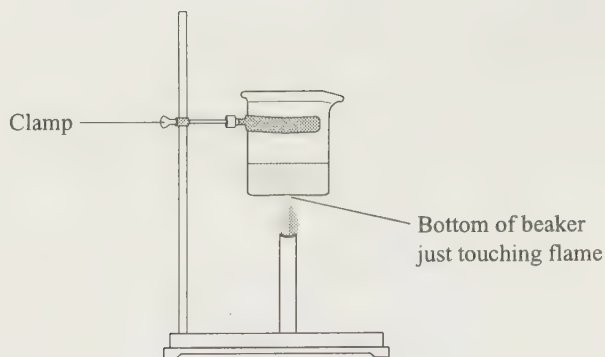

FIGURE 2
4. Suspend the beaker through a ring clamp as shown by Figure 2, being sure the beaker is securely held before releasing it.